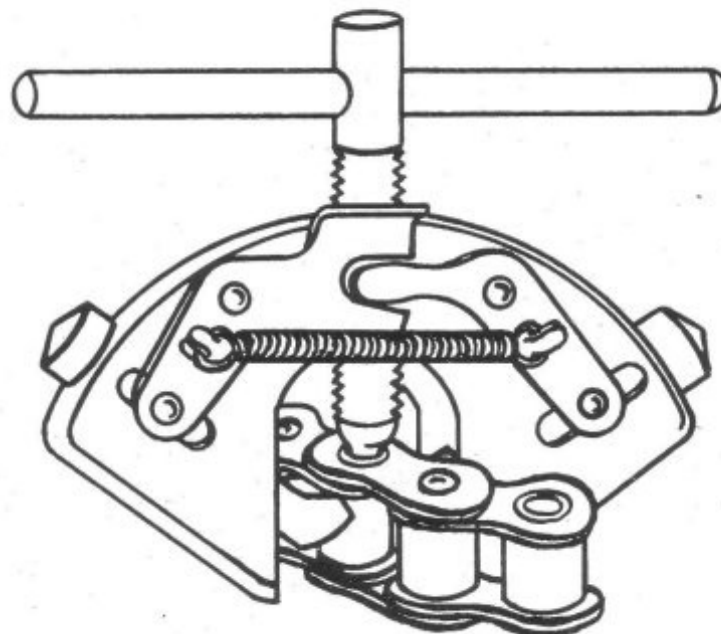

Fig. D4.
4. Chain Rivet Extractor (See Fig. D4).
The Pennant type of rivet extractor is illustrated in Fig. D4. To use, screw up the punch, press down the lever on the side plate to open
5. Chain Alterations and Repairs (See Fig. D4).